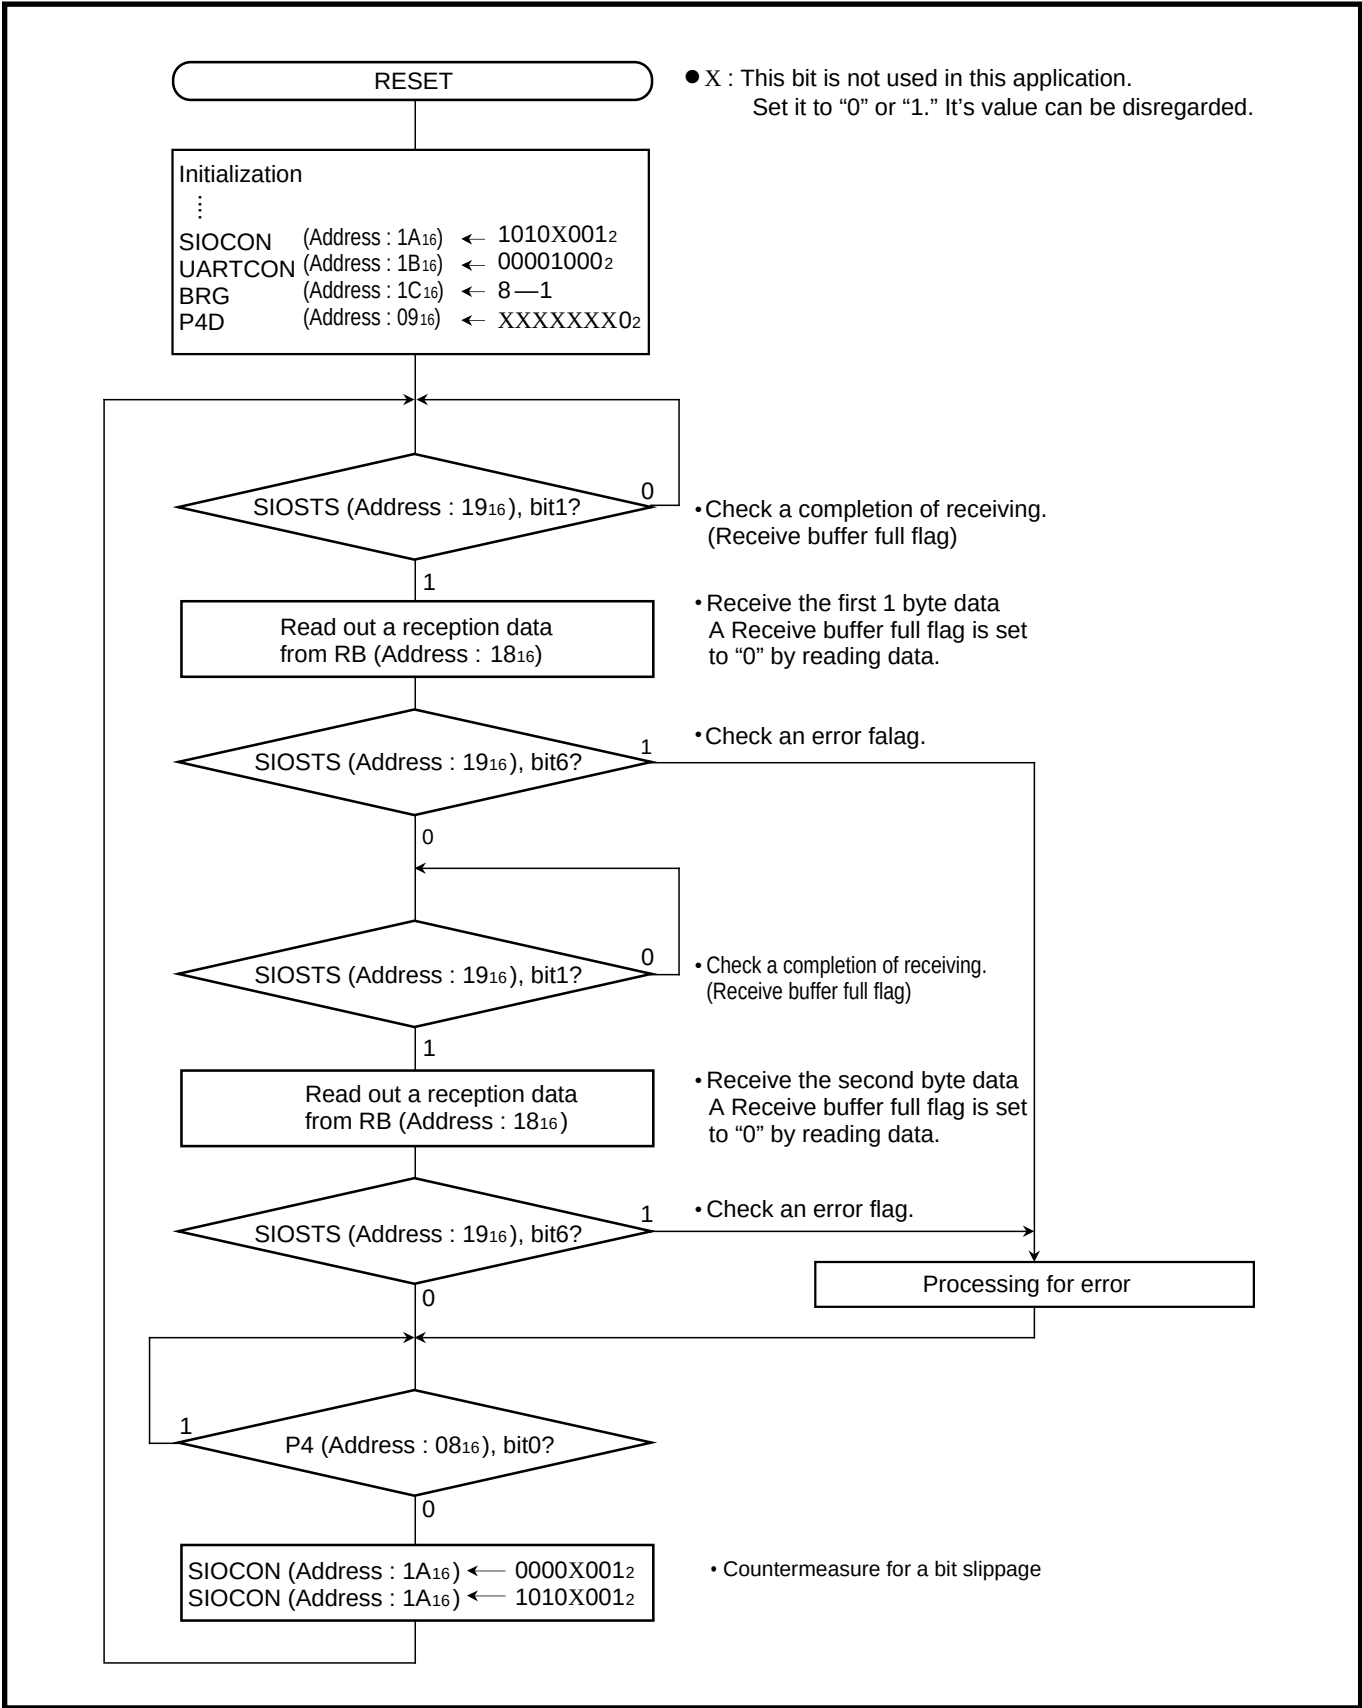

**Fig. 2.3.33 Control procedure at a transmitting side [Communication using UART]**
After a setting of the related registers is completed as shown in Figure 2.3.33, in the master unit transmission or reception of 1-byte data is started simply by writing transmission data to the Transmit buffer register.
**Control procedure :** Figure 2.3.33 shows a control procedure at a transmitting side, and Figure 2.3.34 shows a control procedure at a receiving side.